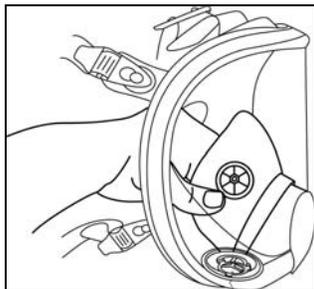

Fig. 18
1. Remove the nose cup assembly by grasping the nose cup below the inhalation valve and gently pulling up and away from lens assembly. (Fig. 18)